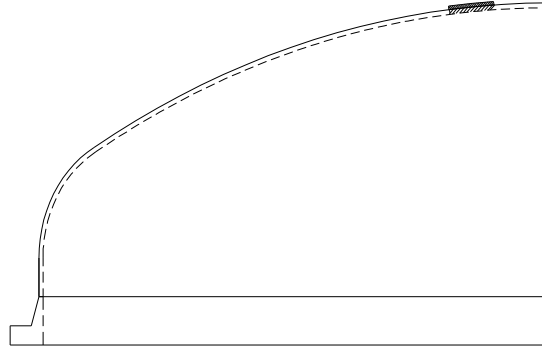

Fig. 10. Stress reliving- Lid with flange
7.3.1. After welding of lid flange to chamber lid as shown in fig.10,